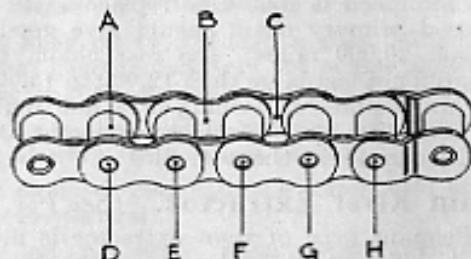
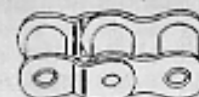

FIG. 5. LENGTH OF CHAIN WITH CRANKED LINK.
FIG. 8. DOUBLE CRANKED LINK.
The illustration, Fig. 5, shows a short length of chain ending in a plain inner link at the left hand
- (d) **To shorten a Chain not containing a Cranked Link.** Extract the third and fourth rivets (F and G) counting from the joint (left hand end of chain in Fig. 5) and join up the chain by using the double cranked link (Fig. 8) and single connecting link (Fig. 7).